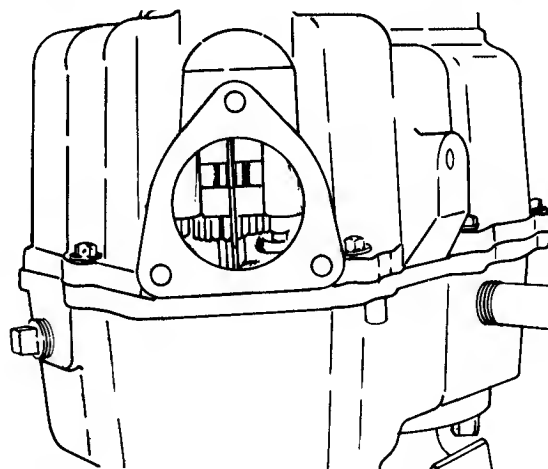

FIG. 4.3-TRANSAXLE SHIFT REMOVED
1. Shift transmission to neutral and remove shift lever. Fig. 4.3.